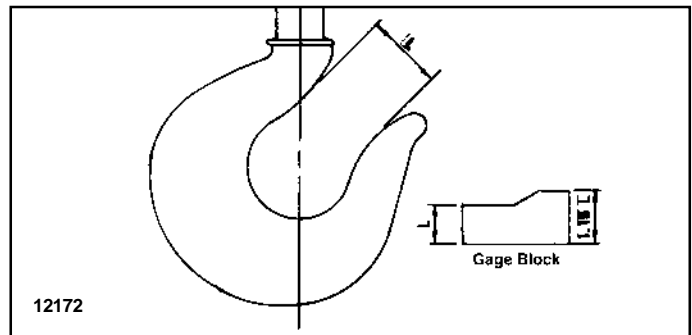

Figure 8-9. Method of Measuring Hook Throat Opening (shown with latch removed for clarity)
- (1) Check lubrication of all parts. If the thrust bearing is not equipped with a grease fitting, lubricate with a general purpose oil. Also lubricate the shank of the hook which passes through the crosshead.
- (2) Check each sheave to insure rope groove is smooth and free from burrs, or other surface defects.
- (3) Check each sheave for freedom of rotation, replace bearings if defective.
- (4) Make certain that dowel pin holding the hook nut to the hook, is securely in position.
- (5) If hook is equipped with a safety latch or rotational lock, check to determine that they are in good operating condition.
- (6) Check throat opening of hook. (Refer to Figure 8-9.) It is recommended that upon receipt of the crane, a measurement be made and recorded of the hook throat opening. OSHA regulations require that the hook be replaced if the throat opening exceeds 15 percent of the original opening, or if the hook is twisted more than 10 degrees from the unbent plane. A gage block, properly identified to the crane, similar to the one shown in Figure 8-9 is suggested to be made for each hook for use in these measurements.